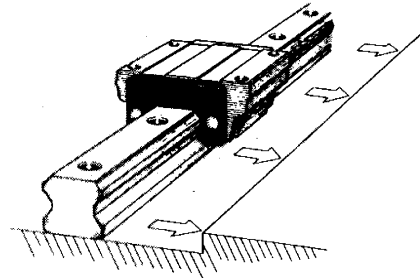
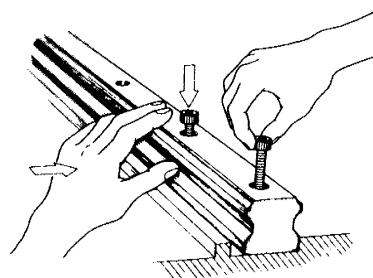

Fig. 15 Matching of the Datum plane
Fig. 16 Bolt play check
For the machine's mounting surface and the Linear Guide side mounting surface, it is necessary to limit the interferences of W_2 or W_3 and H dimensions among several slides. (Refer to Fig. 15 and Fig. 16) The rail of the side for which dimensional interference is limited is called "Reference side rail" or mas-
- 2) Place the rail quietly onto the bed, and tighten the mounting bolts temporarily so that the rail just is brought to close contact with the mounting surface. (Match the side datum plane of the bed with the line mark of the rail. (Fig. 15)
Note: Use clean mounting bolts for fixing of guides. When inserting a bolt into the mounting hole of an rail, check for correct thread engagement. (Fig. 16) Forcible tightening of a bolt without correct thread engagement can cause decreased accuracy.